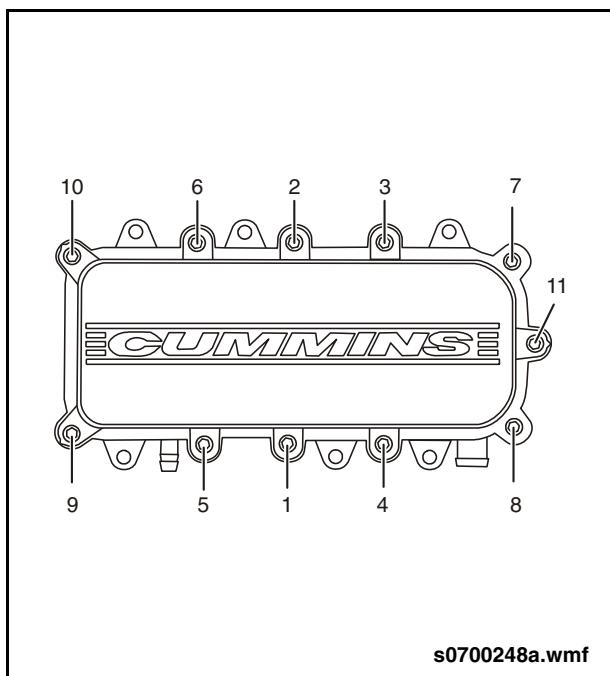

Fig. PM-43: Breather Cover Torque Sequence
3. Install the breather cover using eleven bolts. Torque bolts to 44 in-lb. (5 Nm) in the sequence shown. See "Fig. PM-43: Breather Cover Torque Sequence" on page 87.